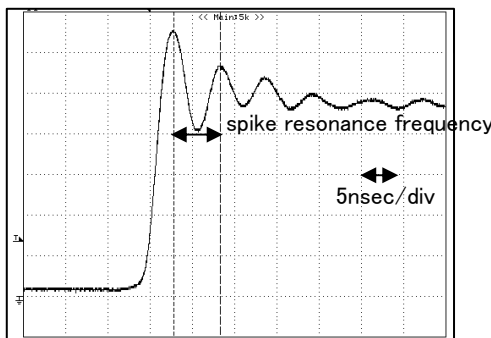

Figure .35 PWM Output waveform (measure of spike resonance frequency)
- ① Measure the spike resonance frequency f_1 of the PWM output wave shape (When it stands up.) by using FET probe in the OUT terminal. (Figure. 35) The FET probe is to monitor very near pin and shorten ground lead at the time of that.
- ② Measure resonance frequency f_2 of the spike as a snubber circuit fixed number $R=0\Omega$ (Only with the condenser C, to connect GND) At this time, the value of the condenser C is adjusted until it becomes half of the frequency ($2f_2=f_1$) of the resonance frequency f_1 of ①. The value of C which it could get here is three times of the parasitic capacity C_p that a spike is formed. ($C=3C_p$)
- ③ Parasitic inductance L_p is looked for at the next formula.